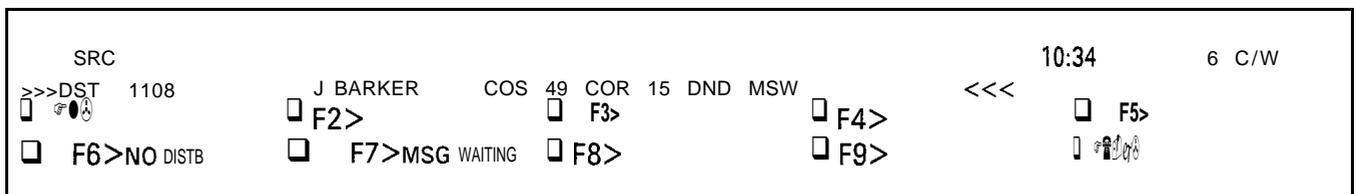

Figure 3-24 Message Waiting
3.30 The Attendant may set up or cancel the Message Waiting (MSW) feature for the extension. Softkey 7 is used to set up and cancel MSW. In Figure 3-24 the Attendant Console display indicates at line 2 that the Attendant is connected to an extension user with Do Not Disturb (DND) and Message Waiting (MSW) set up. To cancel MSG WAITING the Attendant must press softkey 7 (MSG WAITING). This will clear the MSW prompt on line 2.